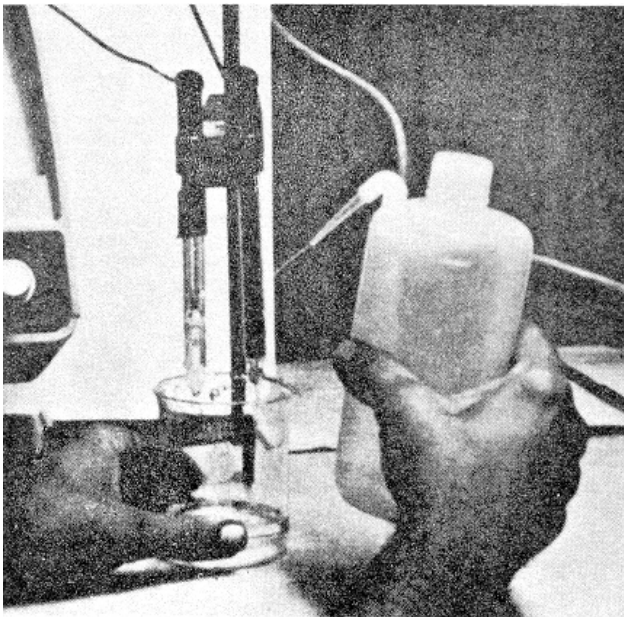
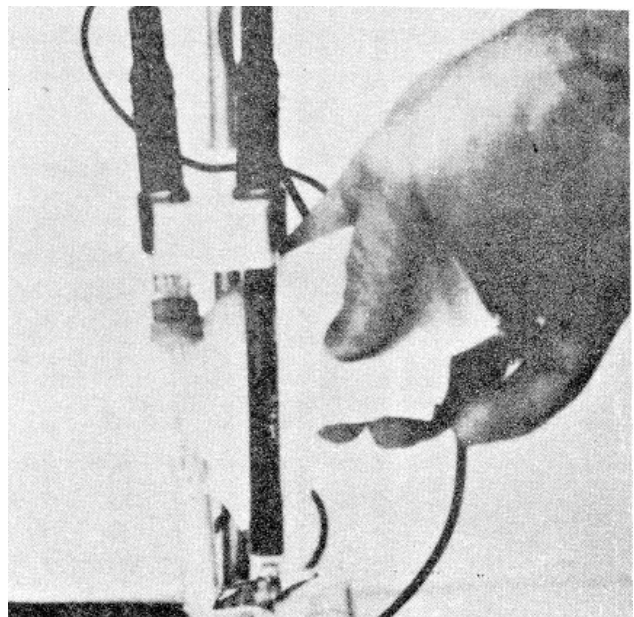

Figure 10
Figure 11
6. Using a large beaker, rinse the electrode with distilled water (figure 10) and wipe off the excess water with a soft tissue (figure 11).